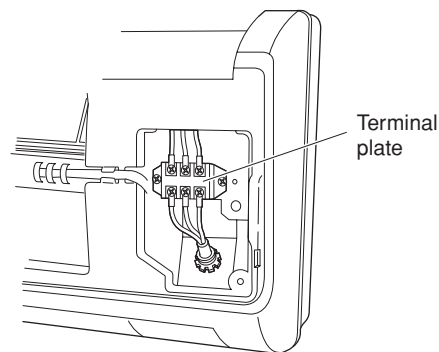

Fig. 26a
- (4) Route the inter-unit wiring from the back of the indoor unit and pull it toward the front for connection. (Fig. 26a, 26b)
- (5) Connect the inter-unit wiring to the corresponding terminals on the terminal plate (Fig. 26a, 26b) while referring to the wiring diagram.
- (6) Be sure to secure the wiring with the provided clamp.